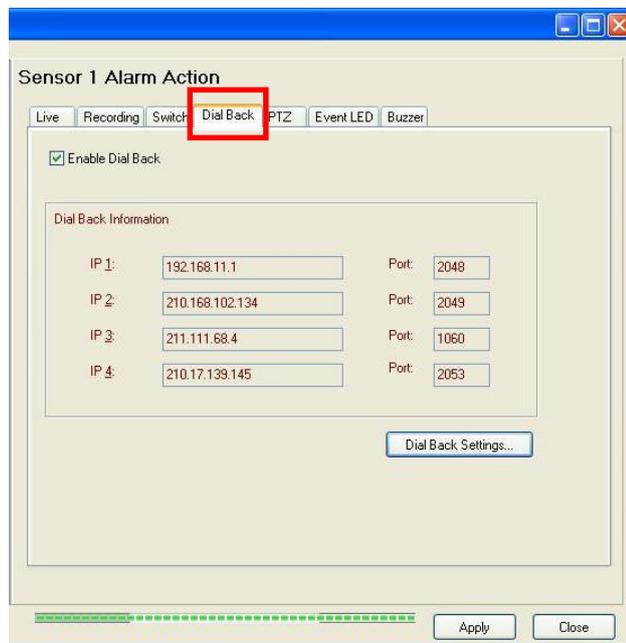

Fig 8.2.4a
Step 1 : In {(Event) Action} panel, click [Dial Back] option to set dial back setting as **Fig 8.2.4a**.